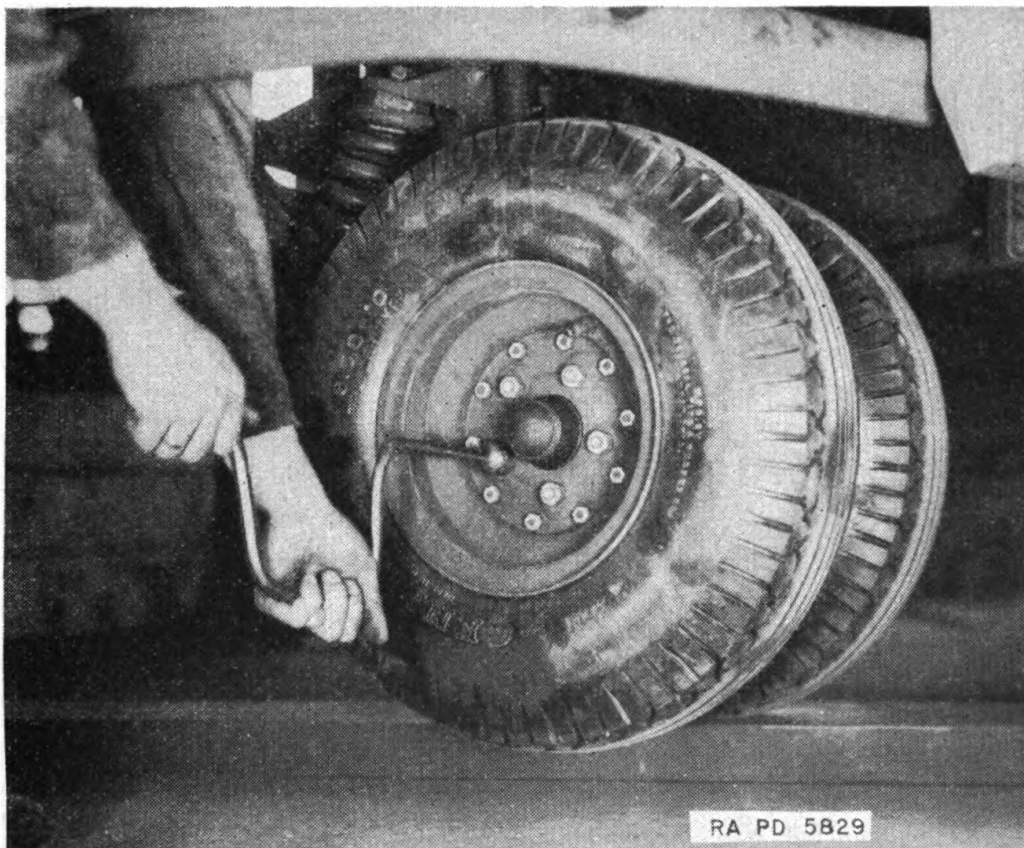

FIGURE 16.—Front wheel removal.
*c. Removal of wheels.*—The caster wheel and tire assemblies may be removed by removing the five inner bolts (fig. 16). The wheel and tire may then be dismantled from the hub.